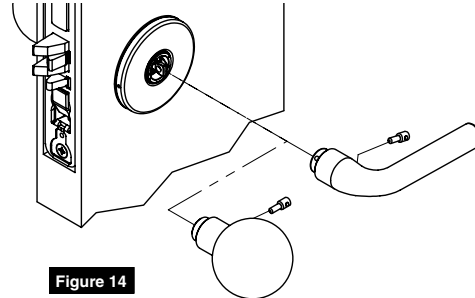

Figure 14
8. Install inside lever or knob by inserting dowel screw. (Figure 14)